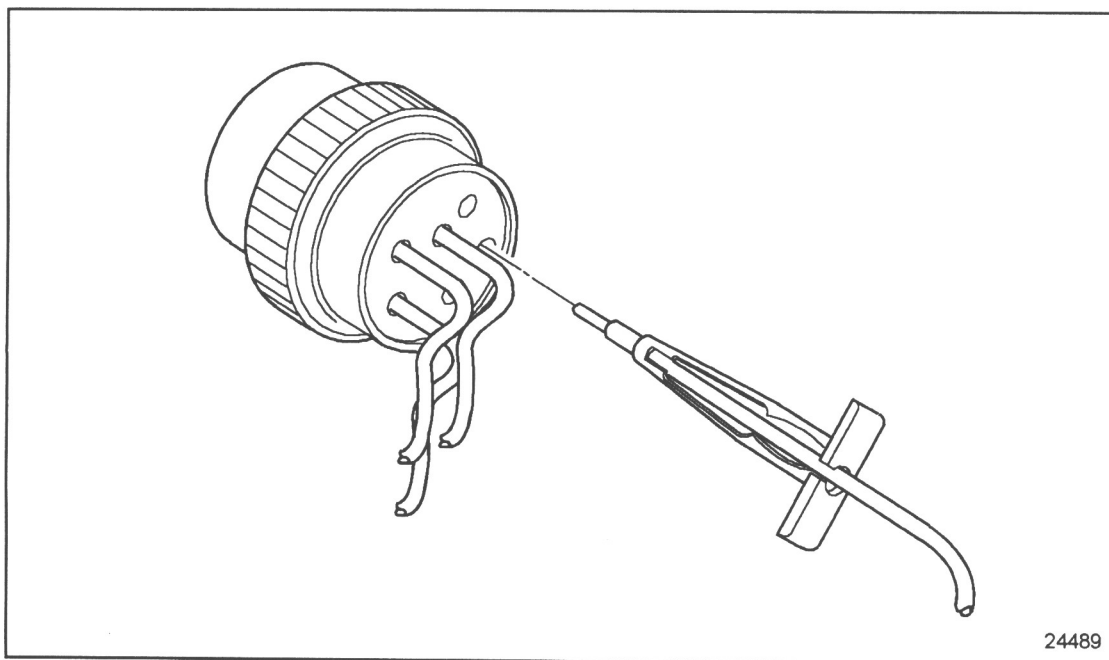

Figure 8-18 Removal Tool Insertion
2. Slide the tool along the cable into the insert cavity until it engages and resistance is felt. Do not twist or insert tool at an angle. See Figure 8-18.